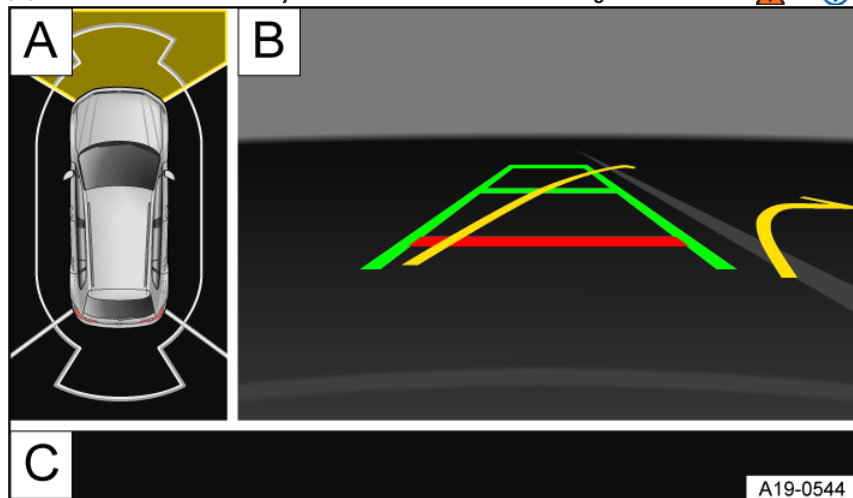

Fig. 101 Infotainment system: Area View in the "Front angled parking" mode (general example).
1. Tap the function keys on the image border to select a display *fig. 101* .
Two sections of the screen will be shown in the Infotainment system *fig. 101*: